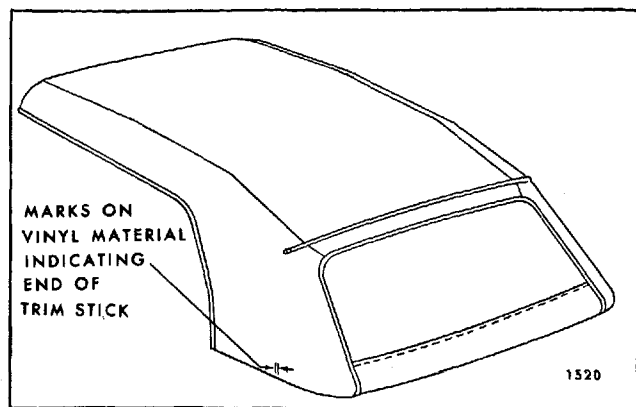

Fig. 6-8—Marking Top Material
22. Using a pencil, mark both ends of rear and rear quarter trim sticks on vinyl surface of top material (Fig. 6-8). Reference marks for trim sticks should be transferred to new top material when step 28 of installation procedure is performed.